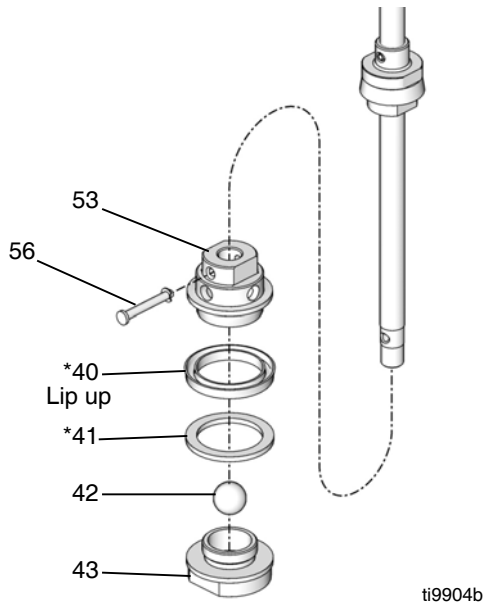

FIG. 20
9. Remove pin (56). Remove piston valve assembly. Unscrew piston valve (43) from piston housing (53). Remove wear ring (41*), u-cup (40*) and ball (42). Inspect all parts for damage. See FIG. 20.